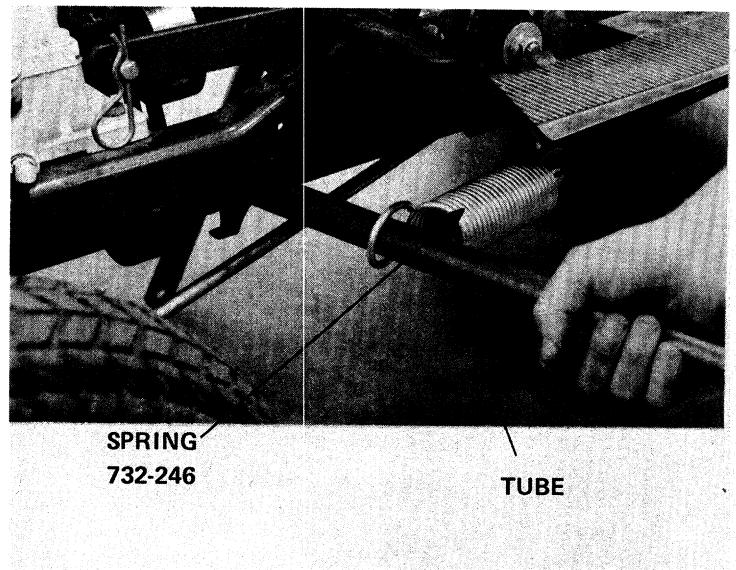

Figure 2
6. With a screwdriver or tube (as shown in figure 2), extend spring forward and hook over the welded clevis pin on the frame. (See figure 2)